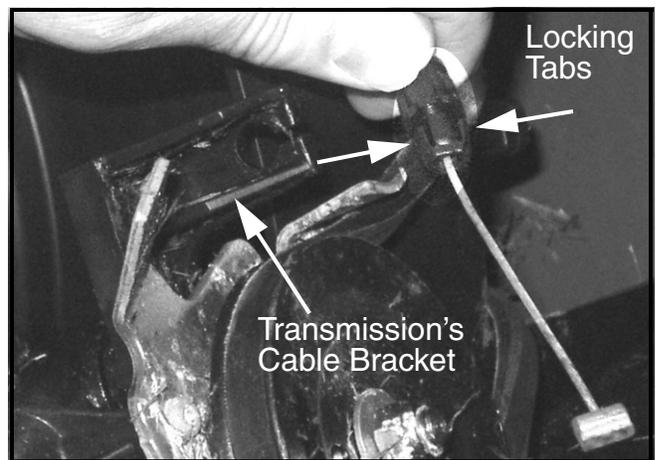

FIGURE 15
27. With a pair of long nose pliers, carefully compress the two locking tabs on the cable's end fitting and slide the cable fitting back through the transmission bracket's hole. See Figure 15.